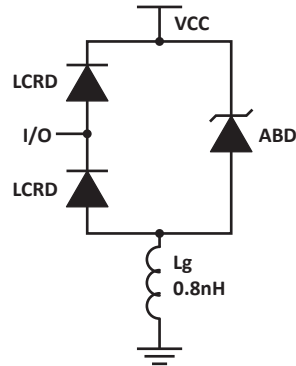

**FIGURE 6**
1. Capacitance measured at VWM = VCC connected between I/O pins to pin 8 and 5 (Gnd). VR = VWM @ 1MHz. As shown in Figure 6, REF1 is connected to ground, REF2 is connected to +VCC and input applies to VCC = 5V, VSIGN = 30mV, F = 1MHz